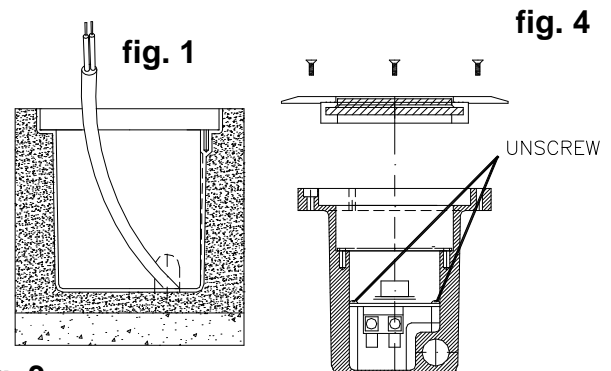

fig. 3
- INSERIRE IL CAVO TRIPOLARE NEL PRESSACAVO (FIG.3).
- (BILD3) IN DER KABELDURCHGANGSKLEMME DIE DREILEITERRKABEL EINSETZEN. VERKABELN, DANN ELEKTRIFIZIERUNGSPLETTE WIEDER EINSTELLEN UND DIE KABELDURCHGANGSKLEMME FESTMACHEN.
INSERT THE THREEPOLAR CABLE INTO THE CABLE GLAND (FIG.3)
INTRODUIRE LE CÂBLE TRIPOLAIRE DANS LE SERRE -CÂBLE. (FIG.3)